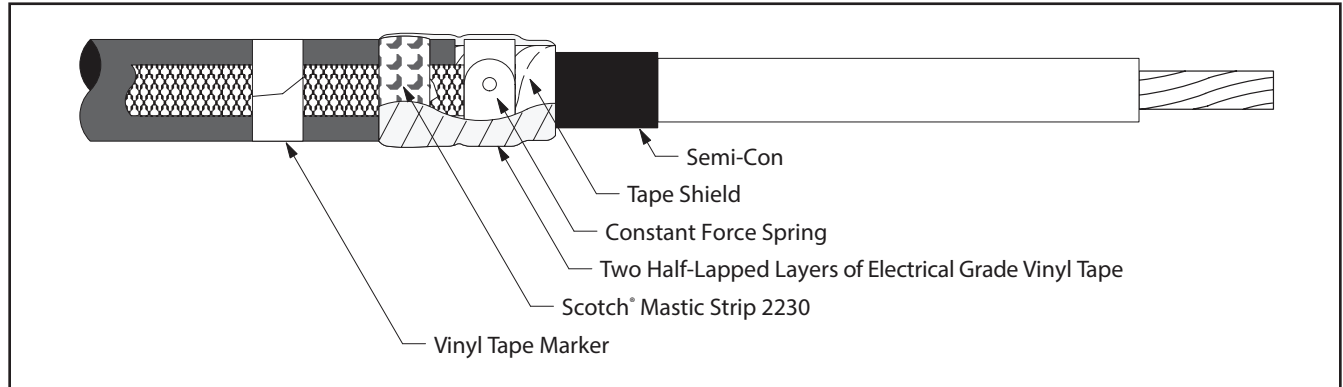

Figure 4
- 3.4 Wrap two highly stretched half-lapped layers of electrical grade vinyl tape around mastic seal, constant force spring and exposed tape shield (*Figure 4*).